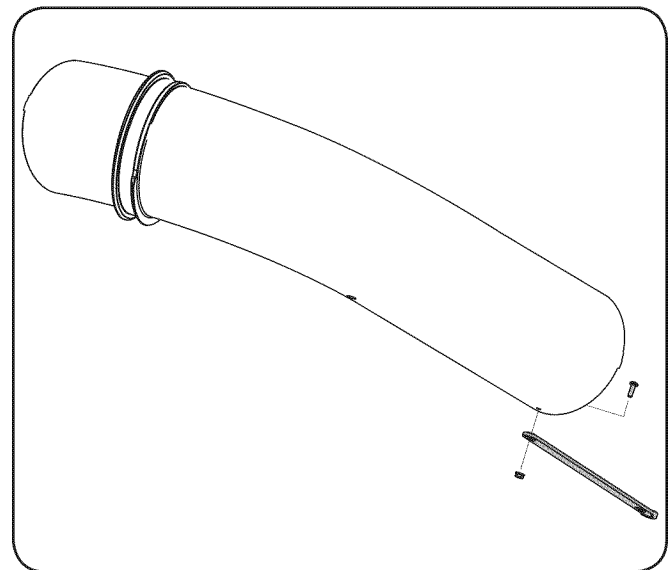

Figure 4-22
2. Attach the rubber strap (723-04009A), from hardware pack 689-00094A, to the upper chute tube using the machine screw (710-0924) from the same hardware pack. Secure with a flange lock nut (912-3027) supplied in the same pack, as seen in Fig. 4-22.